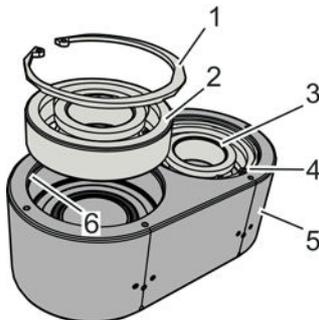

Fig. 114: Disassembling the bearing
- 14. ▶ Remove the inner retaining rings (Fig. 114/1, 4) from the grooves (Fig. 114/6) of the bearing housing (Fig. 114/5) and place to the side.
- 15. ▶ Pull out or push out the bearing (Fig. 114/2, 3) from the bearing housing (Fig. 114/5) with the removal tool and place to the side.